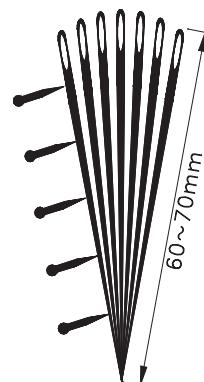

Fig B-5. A focus aid, made with sewing needles
If a commercial line-pair gauge is not available, a convergence style focus aid can be constructed, using sewing needles. See Fig B-5.
- Photocopy of Fig B-5
- A piece of 3 mm thick medium density fibreboard (MDF), or a piece of thin acrylic plastic, cut to the size of Fig B-5.
- Using adhesive, attach a photocopy of Fig B-5 to piece of 3.0mm MDF, or thin acrylic, cut to the size of Fig B-5. Use this diagram for positioning the needles.
- Using Fig B-5 as a template, place the needles on top of the outlines shown in the drawing. Start first from the two outside positions, working from each side towards the centre. A pair of tweezers will help in positioning. The ‘rotation’ position of the needle eye is not important.
- If using the focus aid (Fig B-5), observe the distance from the apex before blurring occurs, which indicates focus quality.